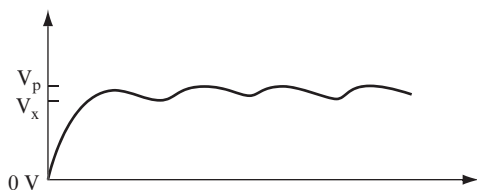

FIGURE 11.48
Figure 11.48 shows the waveform that results from using a smoothing capacitor.
- B.** What is the average DC level for the waveform in Figure 11.48 given that $V_p = 40$ volts? _____